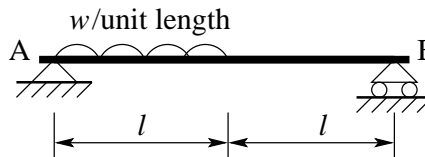

Figure 1
- † 1. Split the loading on the beam shown in Figure 1 into symmetric and anti-symmetric components and, hence, calculate the deflection of the centre of the beam due to the applied load. The beam has flexural rigidity EI .